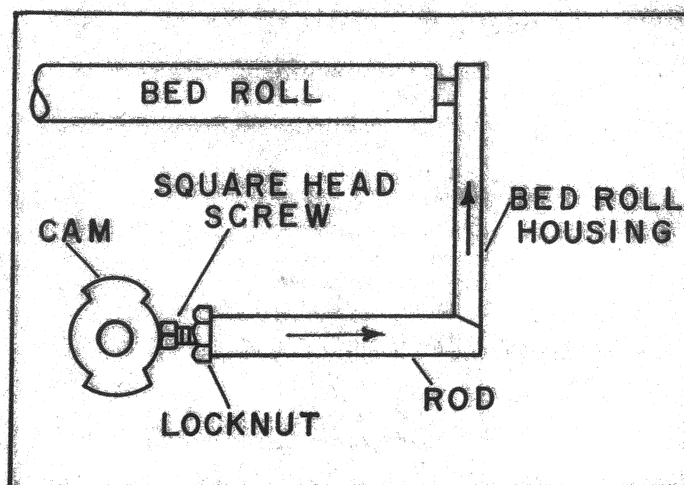

Fig. 9
11. NOTE: As the square head screws are backed out of the rods and against the cams, they will push the rods toward the bed roll bearing housings. (The housings have a beveled surface similar to the end of rod.) This will cause the housings to move upwards lifting the bed rolls, as shown in Fig. 9.